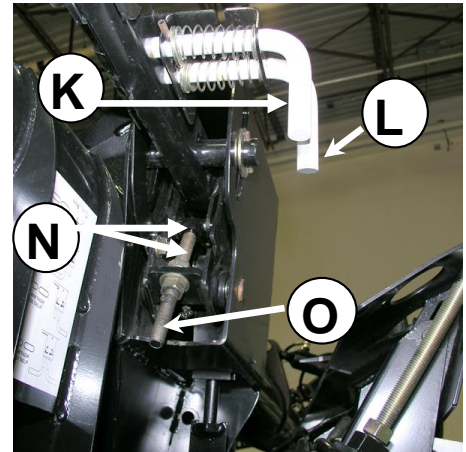
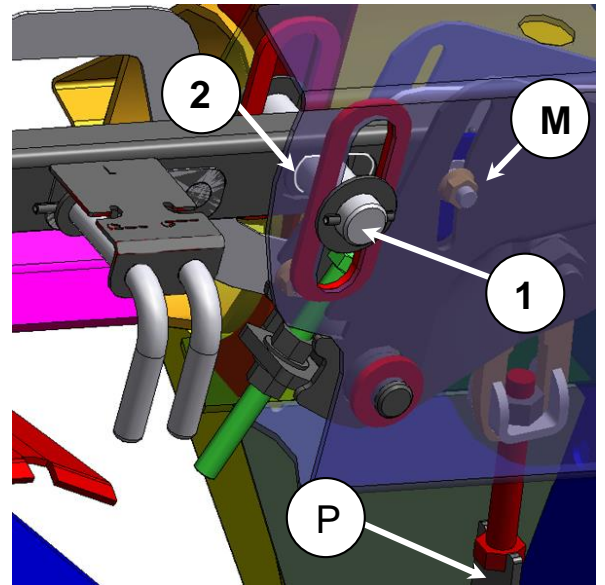

Fig. 5 Wing Balance Check
Fig 9. Wing Flex Range- Frown Shown Smile to be Checked at Other End of the Slot
Outside pin (**K**) should just pull out with no resistance. If smile pin (**K**) is tight, loosen bell crank nut (**M** - See Fig. 9) and adjust nuts (**N** - see Fig. 5) to move pin upwards (exposed threads should be shorter at **O**). Adjust until outside pin moves freely.
NOTE:** When adjusting bell crank ensure side nut (**M** - See Fig 9) is loose. If nuts (**N**) are hard to turn see *NOTE:** below.
If frown (inside pin **L**) is tight, loosen bell crank nut (**M** - See Fig. 9) and adjust nuts (**N** - See Fig. 5) to move pin downward (exposed thread should be longer at **O**). Adjust until inside pin **L** has slight pressure on it when removed.
****NOTE:** When adjusting bell crank ensure side nut (**M** - see Fig.9) **is loose**, if nuts (**N** - See Fig. 5) are difficult to turn lower the feeder house all the way to the ground. This will relieve pressure from the vertical strut (**P** - see Fig. 9) and make nuts (**N**) easy to adjust. After adjustment is made raise cutterbar back up to 150mm (6") before re-checking pin tension.